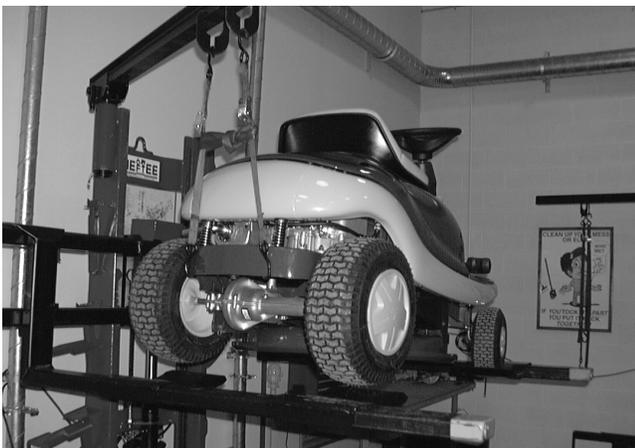

FIGURE 2.
- 3). Raise the rear wheels off the ground. See figure 2.